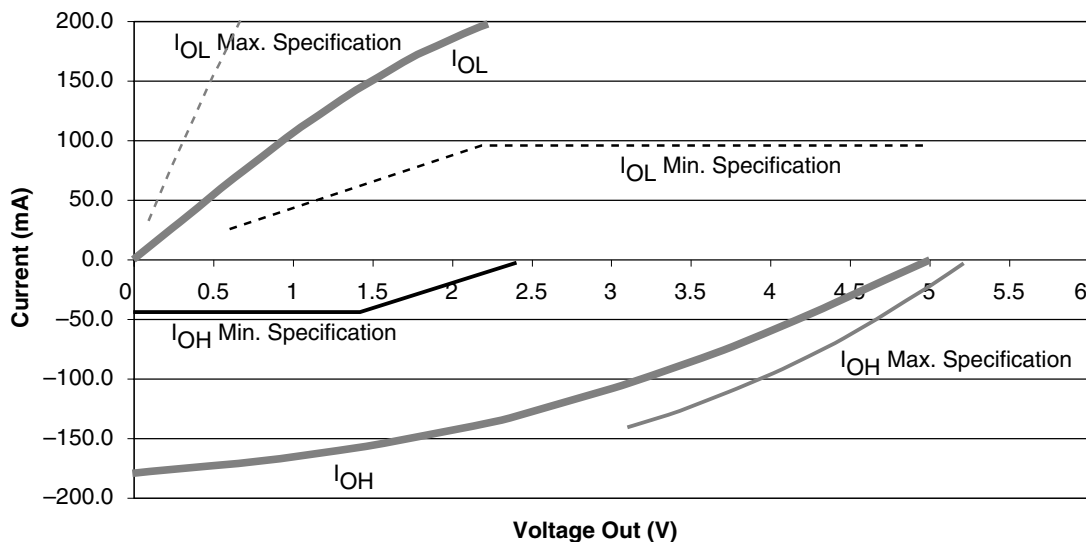

Figure 2-7 • 5V PCI V/I Curve for RTSX-SU
1. Refer to the V_{IL} curves in Figure 2-7 on page 2-16. Switching current characteristics for REQ# and GNT# are permitted to be one half of that specified here; i.e., half size output drivers may be used on these signals. This specification does not apply to CLK and RST#, which are system outputs. The "Switching Current High" specification is not relevant to SERR#, INTA#, INTB#, INTC#, and INTD#, which are open drain outputs.
3. Maximum current requirements must be met as drivers pull beyond the last step voltage. Equations defining these maximums (A and B) are provided with the respective curves in Figure 2-7 on page 2-16. The equation defined maximum should be met by the design. In order to facilitate component testing, a maximum current test point is defined for each side of the output driver.